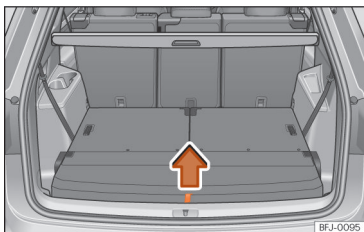

Fig. 126 In the luggage compartment: lift the luggage compartment floor.
- Grab the boot floor by the cord »» **Fig. 126** and lift it in the direction of the arrow and remove it.